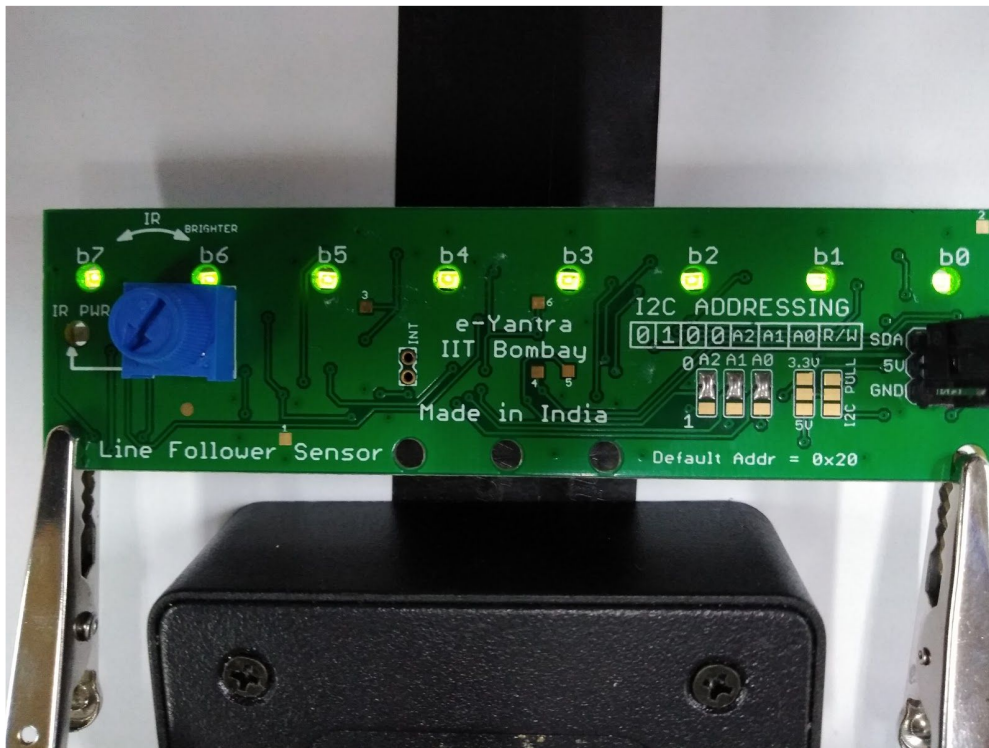

Fig.4: All LEDs are turned ON
Step 2 : Turn the brightness down to the lowest using Knob present on Line Follower Array and observe that all the LEDs are turned ON. (refer Fig.4)
Referring to Fig. 4, IR Led status indicator shows: ON, ON, ON, ON, ON, ON, ON, ON, the output will be 255 (in decimal system) or 0xFF (in Hex system).